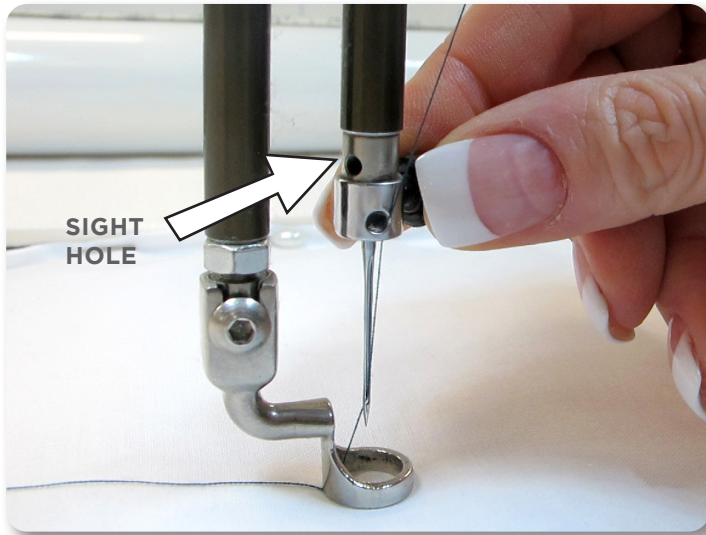

Figure 7
**IMPORTANT:** Check the needle to confirm that it is fully inserted. The needle bar has a stop/sight hole above the needle bar clamp screw - make sure the needle is touching the top of the stop/sight hole (Figure 7). If it is not, the machine timing will be off and it may be possible for the needle to collide with internal parts causing damage not covered by warranty.
3. Loosen the needle-bar clamp thumb screw (Figure 7).
4. With the scarf (small ground out section/dip on the back side of the needle just above the needle eye) facing the rear hand wheel side of the machine, and the long groove down the front of the needle facing the bobbin case side (see Figure 7), push the needle all the way up into the needle bar - until it can go no farther. Look into the sight hole to verify that the butt of the needle reaches the top of the sight hole.